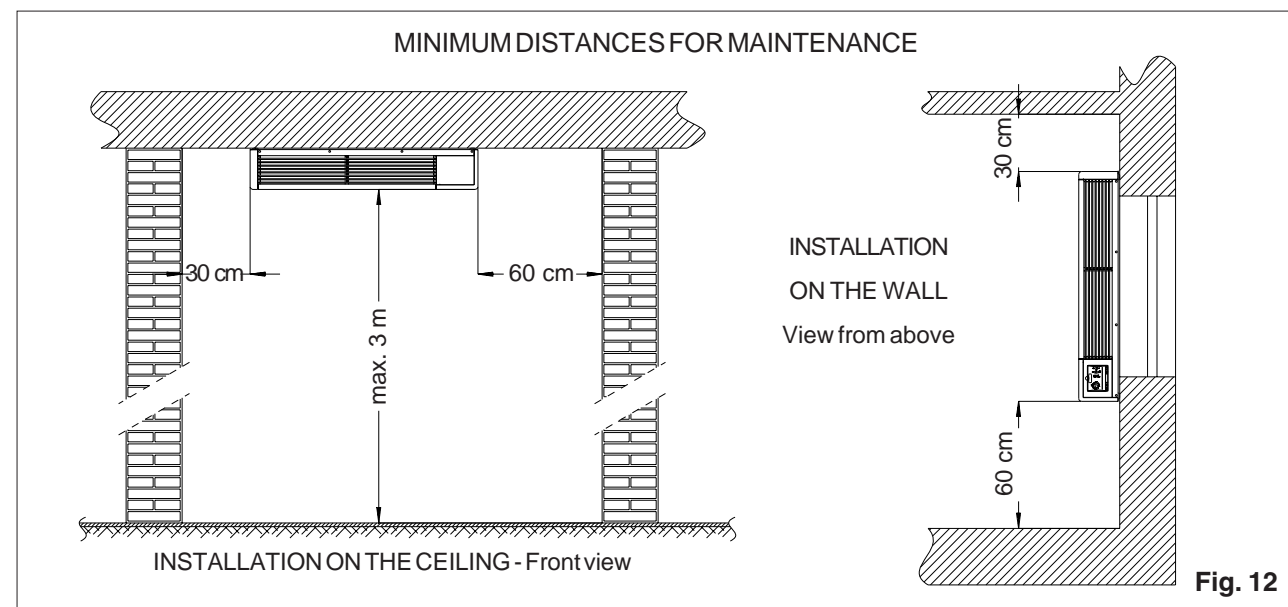

Fig. 12
- d) The unit's installation position must allow access to the parts of the unit subject to maintenance. It is advisable to respect the distances indicated in figure 12.